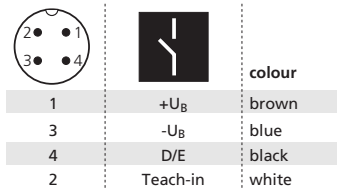

Fig. 1: Pin assignment with view onto sensor plug and colour coding of the microsonic connection cables
- Connect a connection cable to the M12 device plug, see figure 1.